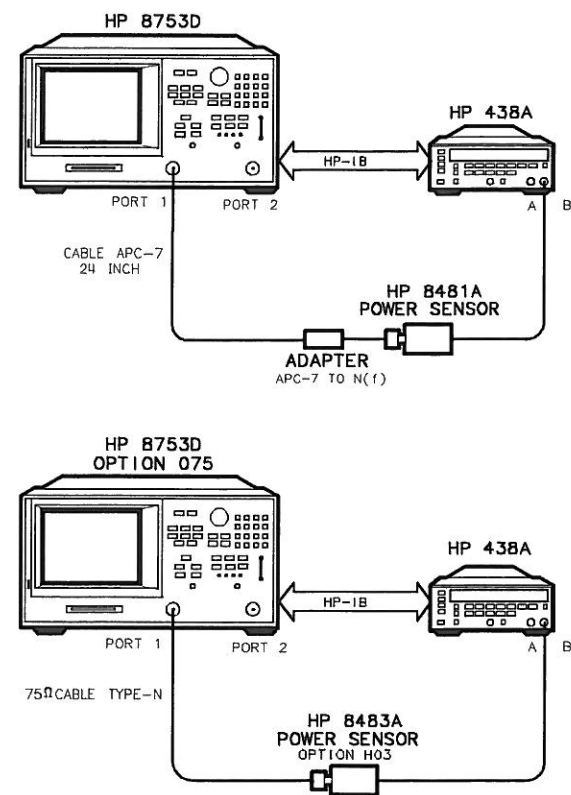

Figure 1-29. Setup for Power Meter Calibration on Test Port 1
44. Connect the equipment as shown in Figure 1-29.